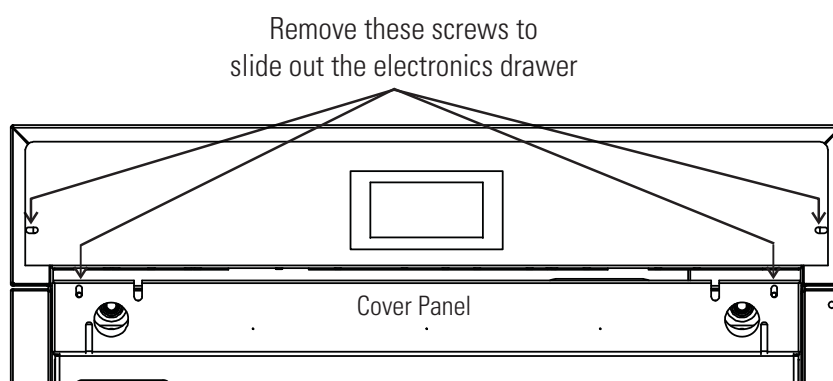

Figure 6-20. Screw Locations
4. Remove four screws as shown. See Figure 6-20.